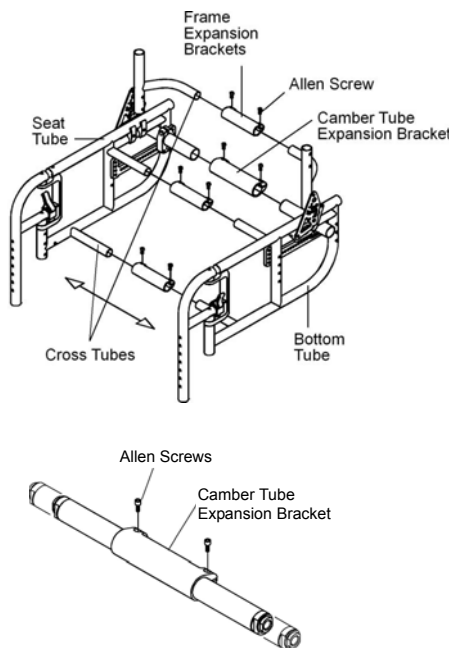

Figure 135
TiLite YG Series wheelchairs are equipped with three frame expansion brackets and one camber tube expansion bracket. See Figure 135. These brackets enable you to adjust the width of the chair within a 3" range. Additional expansion brackets are available to achieve greater seat widths. In many cases, it may be necessary to purchase a new seat sling and/or back upholstery to accommodate a new seat width.
4. Loosen both Allen Screws on each of the three frame expansion brackets and on the camber tube expansion bracket. See Figure 135.